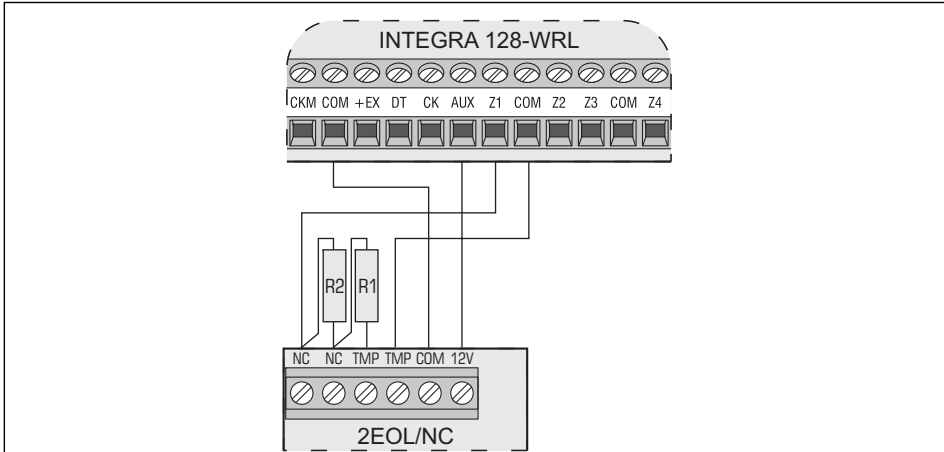

Fig. 17. Exemplary connection of NC type detector in 2EOL configuration to control panel (NO type detector should be connected in the same way).
- on the control panel mainboard – the value of R1 and R2 resistors is programmed individually for the 2EOL wiring type (see Fig. 17). The resistor value for EOL wiring type is a sum of values programmed as R1 and R2.
- **version 4.00** – the value of R1 and R2 resistors for 2EOL wiring type (see Fig. 17). The resistor value for EOL wiring type is a sum of values programmed as R1 and R2.